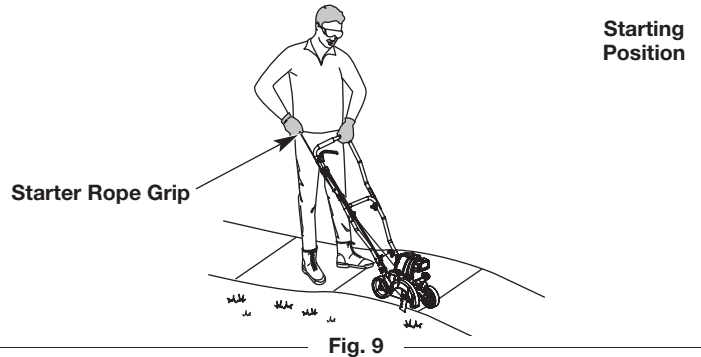

Fig. 9
WARNING: Avoid accidentally starting the unit. To avoid serious injury, the operator and the unit must be in a stable position when pulling the starter rope (Fig. 9).
WARNING: The blade may rotate during the starting process. Always stand in the starting position. Use one foot to hold the wheels in place. Tilt the unit back slightly to bring the blade off the ground (Fig. 9).
2. Stand in the starting position (Fig. 9). Hold the handlebar firmly with one hand. Hold the starter rope with the other hand. Use one foot to hold the wheels in place.
5. Continue to hold the throttle control. Pull the starter rope with a controlled and steady motion until the unit starts (Fig. 9).